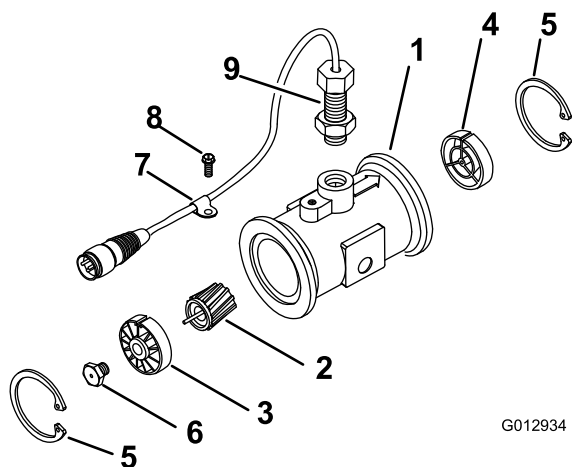

Figure 104
3. Remove the retainer ring on the upstream side (Figure 104).